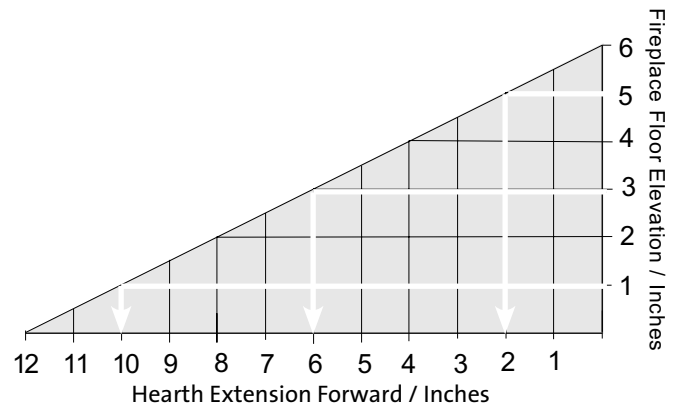

Figure 5.4. Hearth reduction slope.
**NOTE - Raised Hearth:** Forward hearth protection may be reduced by two inches (5.08 cm) for every inch of fireplace floor elevation. Fig. 5.4.